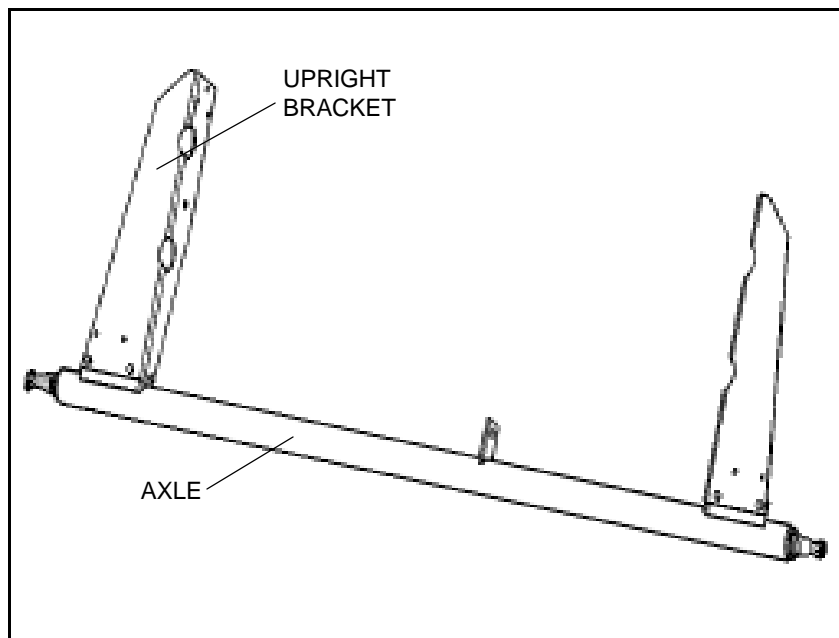

Figure 3.9 Axle Assembly
1. Attach upright brackets to axle using six $7/16$ " x 1" bolts and locknuts, hand-tightened only (Figure 3.9).